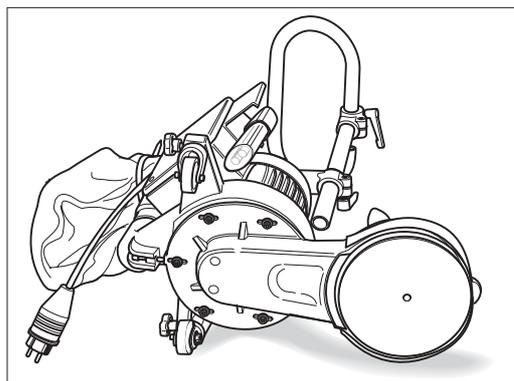

Fig. 62: Place the UNICO down on the **left-hand** side only.
**Always** set the UNICO down on the **left-hand** side (Fig. 62)! This will prevent damage to the floor, and the shape of the fan housing also stops any dust falling back out of the dust bag from getting into the fan housing.